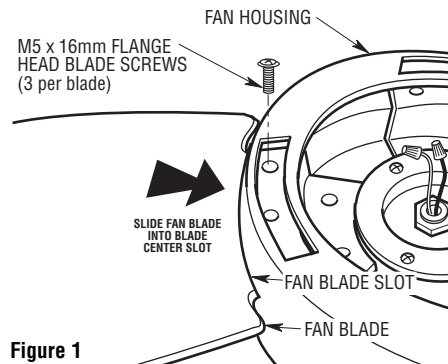

Figure 1
- 2. Slide blade through blade slot in fan housing assembly. Mount blade to fan housing using three M5 x 16mm flange head blade screws (Figure 1).